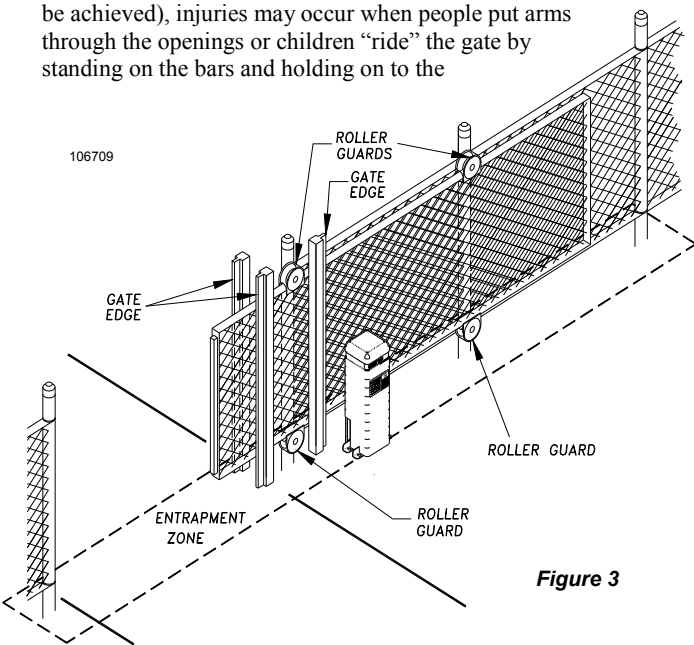

Figure 3
- Use the illustration at left (Figure 3) and the diagrams and information on pages 11, 12, and 13 to minimize the risk of injury in your design of the slide gate operator system. **IDENTIFY THE ENTRAPMENT ZONES AND PINCH POINT AREAS IN YOUR GATE.** Design the gate installation to minimize the risk of entrapment in these areas. Install additional safety equipment such as electric gate edges and photocells to further minimize risk. All entrapment zones are required to be protected.
- **Entrapment Zones:** Design in personal entrapment protection devices to protect people from entrapment in the zones shown in Figure 3 at left and the diagrams and information on pages 11, 12, and 13. Install vertical posts with electric gate edges attached on both sides of the gate to prevent body entrapment.
- **Pinch Points:** Use protective measures (guards, padded edges, etc.) to protect people from the pinch points shown in Figure 3 and the diagrams and information on pages 11, 12, and 13. Attach roller guards in cantilevered gate systems to minimize the risk of hands being caught between the top of the gate and the roller.